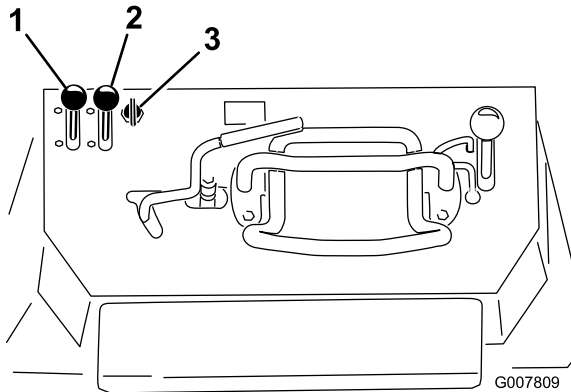

Figure 19
1. Move the throttle lever midway between Slow and Fast positions (Figure 19).
2. Move the choke lever to the On position (Figure 19).
3. Turn the key to the On position (Figure 19). When the engine starts, release the key.
4. Gradually move the choke lever to the Off position (Figure 19). If the engine stalls or hesitates, engage the choke again until the engine warms up.
5. Move the throttle lever to the desired setting (Figure 19).
1. Move the throttle lever to the Slow position (Figure 19).
3. Turn the key off (Figure 19).